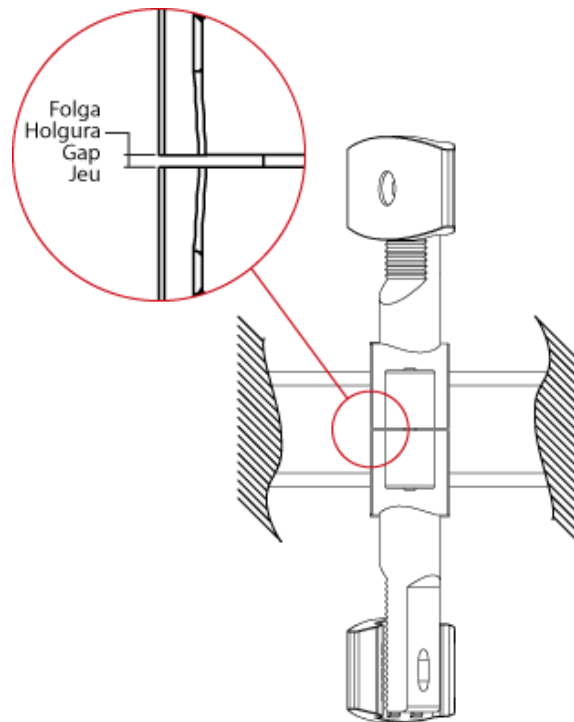

Fig. 2: Folga dos braços / Holgura del brazos / Mixer arms gap / Jeu des bras
- To replace the arms and paddle tips, loosen the bolts and remove the paddle tip, figure 2 - detail B, and the arm, detail C. It may be necessary to replace the paddle tip bolts. To adjust the mixer, go to group 01.05.09 - Mixer - Mixer adjustment.